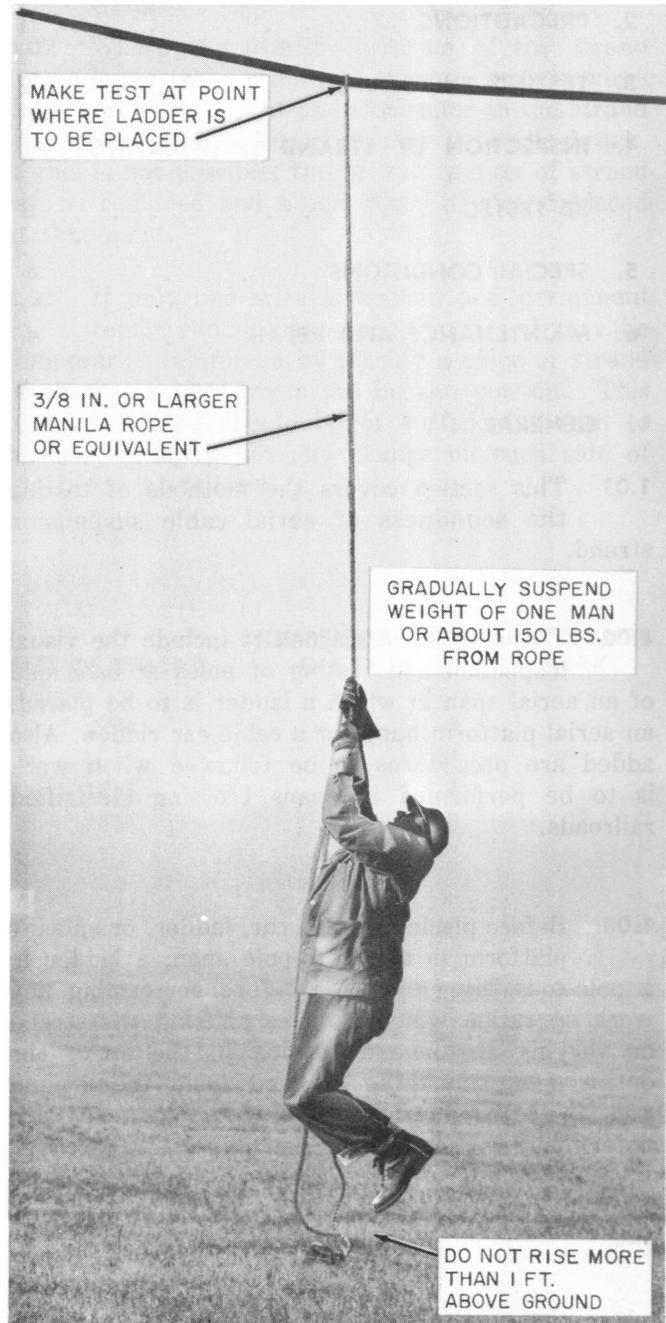

Fig. 1—Testing Strand Prior to Placing Ladder
- (1) Inspect and test the poles at each end of the span (Sections 620-131-010 and 620-132-010).
- (2) Throw or place the handline (2.02) over the strand at the point where the ladder is to be placed.
- (3) The workman who will work from the ladder should grasp the two ends of the handline and gradually apply his full weight to the strand by lifting himself slowly off the ground (Fig. 1).